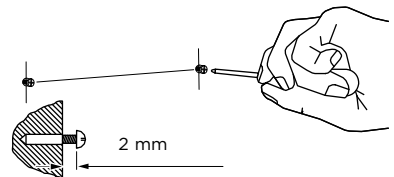
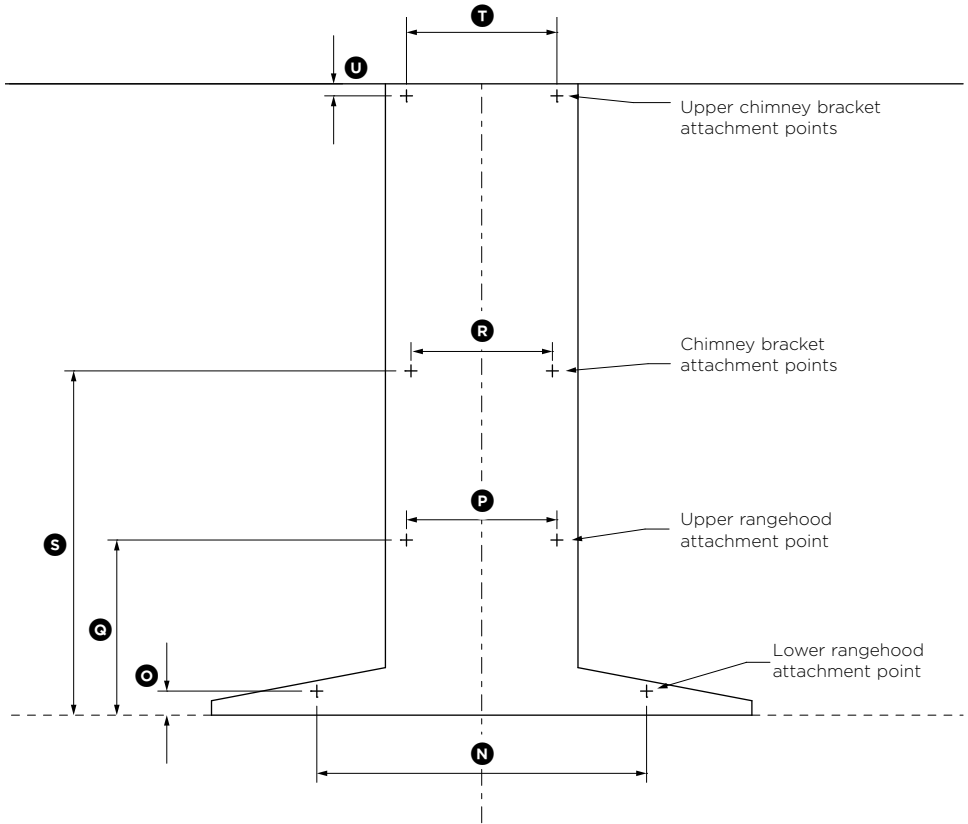

Fig.1
Fig.2
- Attach the chimney bracket and upper chimney bracket in the location shown in Fig.2 (refer to page 10) and 3 (refer to page 11). Use the 30 mm screws (and expansion plugs if attaching to masonry).
- Attach the upper rangehood mounting screws in the locations shown in Fig.2 (refer to page 10) and 3 (refer to page 11). Use the 30 mm screws (and expansion plugs if attaching to masonry). Ensure that there is a 2 mm gap between the screw head and the wall (see Fig.1).